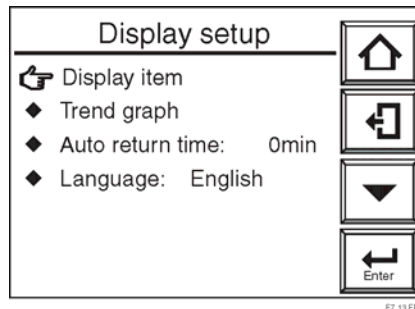
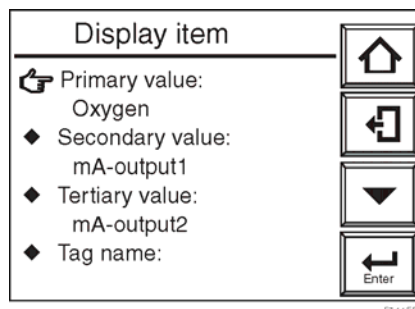

Figure 7-15 Display Setup
Figure 7-16 Display Item Display
3. Select the Display item in the Display setup screen (Figure 7-15). The Display item display (Figure 7-16) then appears. From this display screen, select Primary value and press the [Enter]